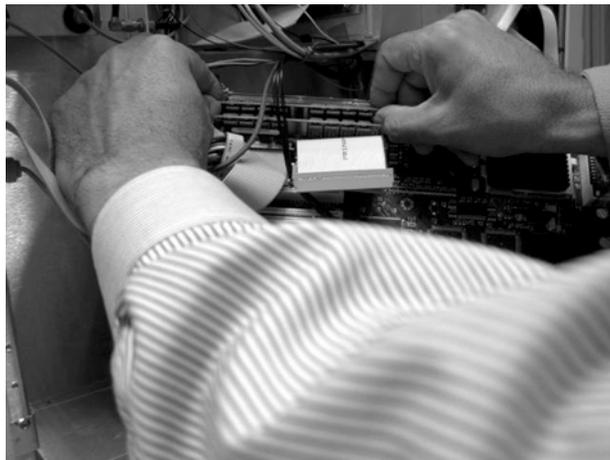

Figure 4-43. Removing the RAM
- 9 Remove the RAM from the motherboard, as shown Figure 4-43.